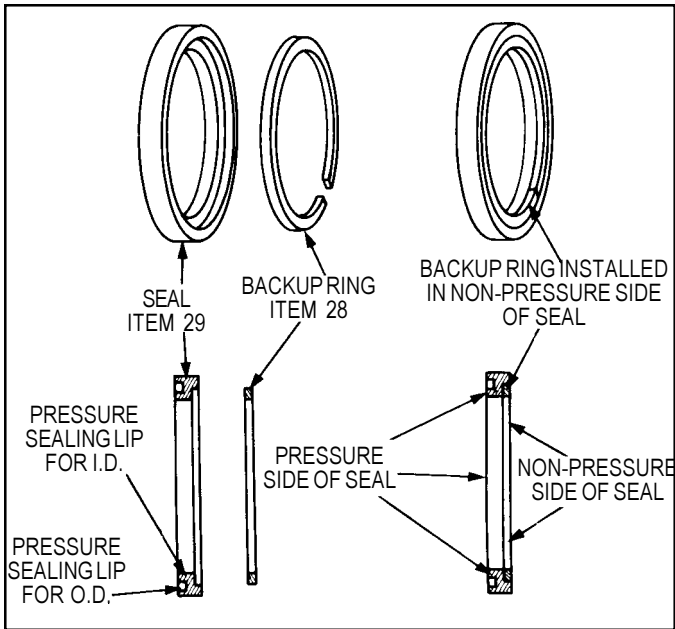

FIGURE 50 - DETAIL OF SEAL & BACKUP RING ASSY.
23. Reaching through the side cover opening of the housing (22), install the seal (29) with its pressure side toward the INTERIOR of the housing. **Note:** *Do not distort this 'flexible' seal any more than is necessary for installation*. Install the split nylon backup ring (28), which is a separate part of the seal (29), by winding it into the groove formed by the backside (non-pressure side) of the seal and the housing. Make certain the split ring is completely seated and that the diagonal split surfaces of the ring mate properly. **Note:** *This seal prevents pressurized fluid from leaking out of the housing around the output shaft. Figures 50 & 51.*